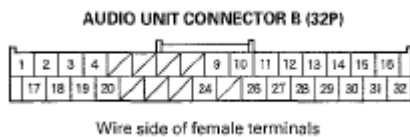

Fig. 47: Identifying Audio Unit Connector B (32P) Wire Side of Female Terminals
26. Check for continuity between audio unit connectors A (20P) and B (32P) and stereo amplifier connector A (26P) according to the table (see **Fig. 47** and **Fig. 48**).